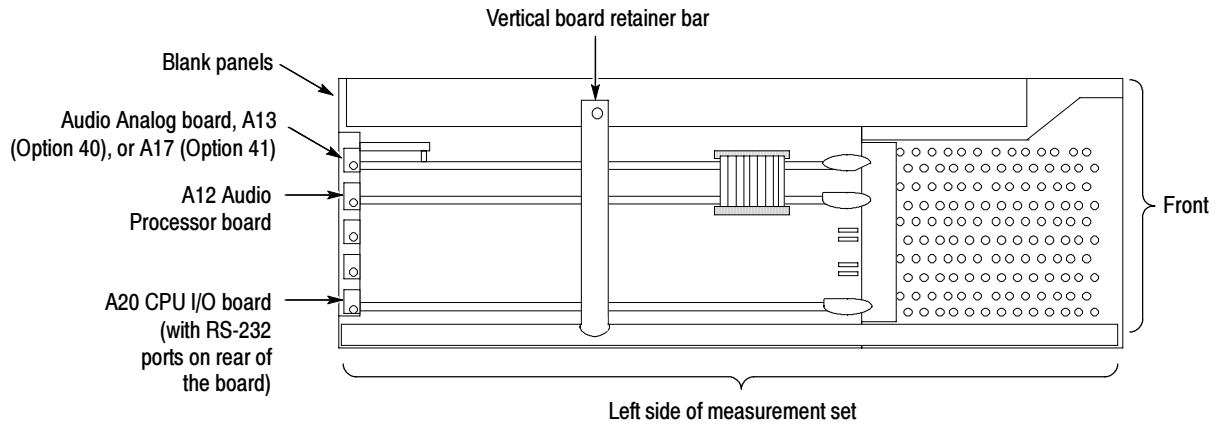

Figure 15: Locating the audio option boards in the left-side card cage
2. Install the Audio Analog circuit board in the top slot and the Audio Processor circuit board in the next slot as shown in Figure 15.